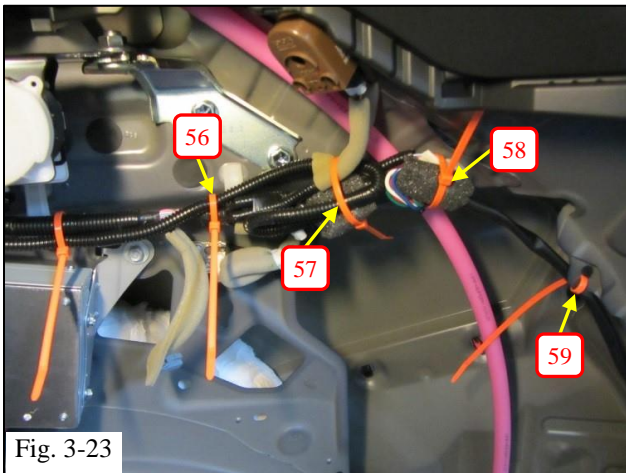

Fig. 3-23
- (v) Wrap the in-line connector and splice joint with a piece of foam tape, then secure the branch to the rear combination lamp assembly RH (Fig. 3-23).